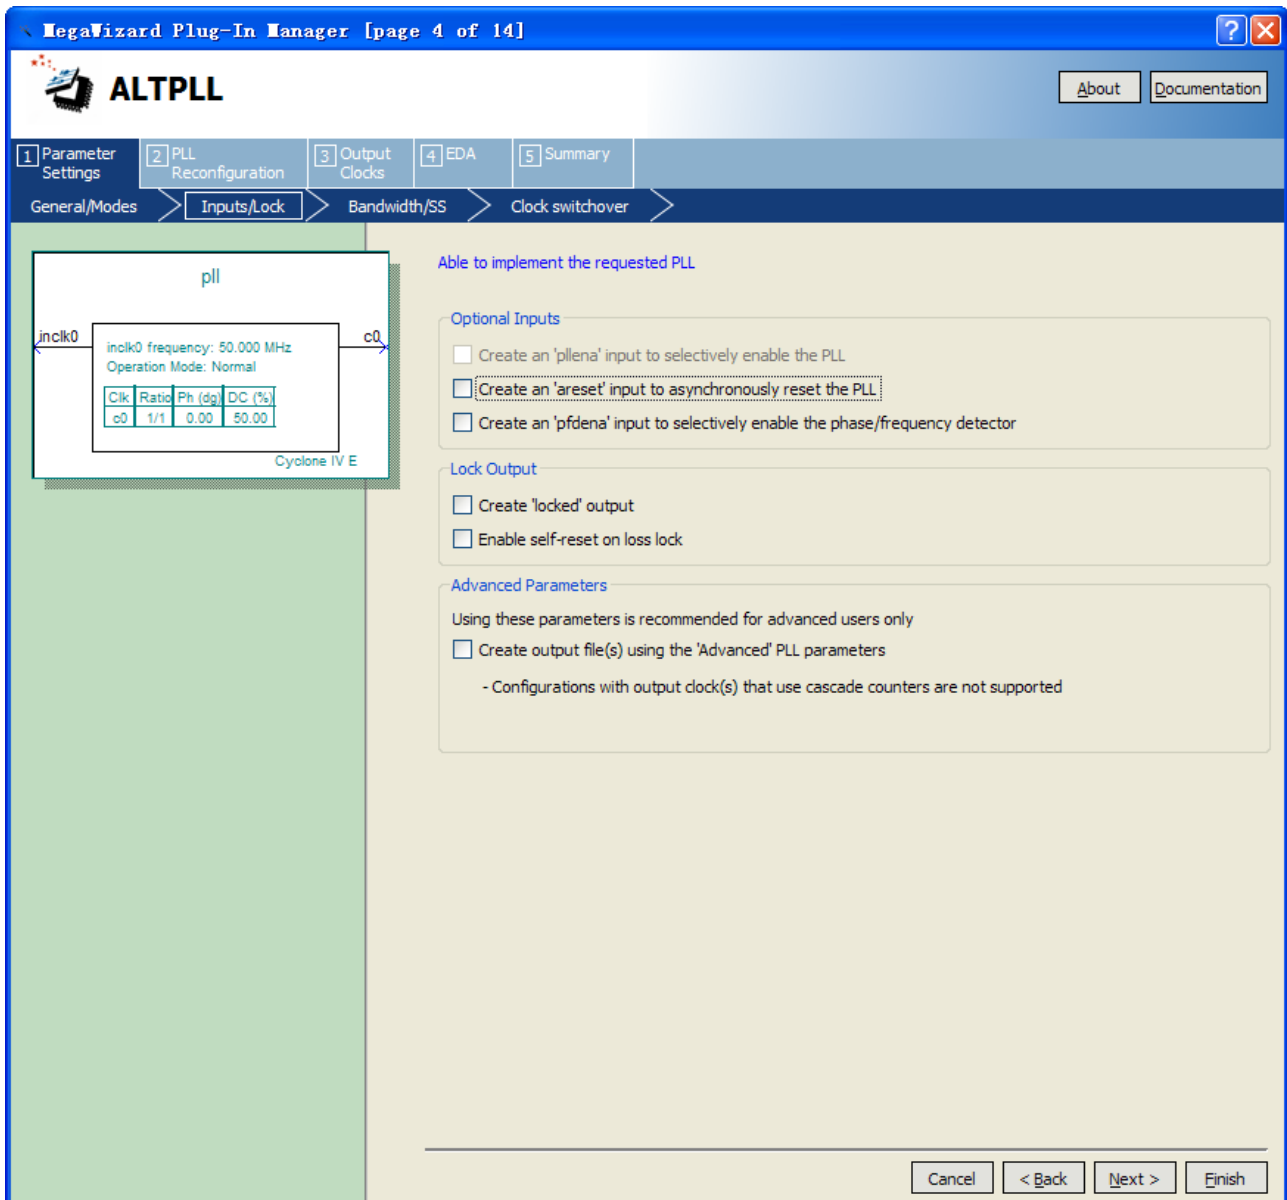

Figure 3-11 MegaWizard Plug-In Manager [page 4 of 14] Selections
6. Turn off all options on MegaWizard page 4. As you turn them off, pins disappear from the PLL block’s graphical preview. See Figure 3-11 for an example.